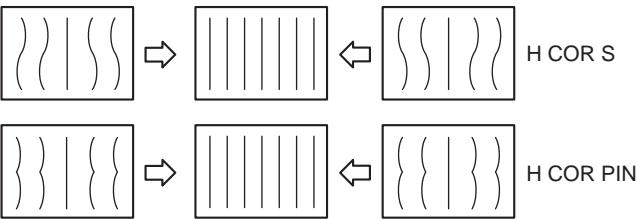

Fig. 1-10
11. Adjust the corner "S" distortion and the corner PIN distortion on both sides of picture using the H CORS and H COR PIN data respectively as shown in Fig. 1-10.
12. Repeat the above-described steps of the linearity adjustment(2) until the optimum horizontal linearity and vertical linearity are obtained.